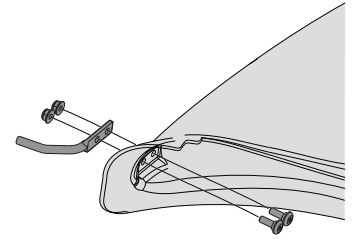

Figure 15
1. Install the boot rod mount (747-06043) to the boot using two shoulder screws (738-1225) and two flange lock nuts (712-04064) from hardware pack 689-00636. Ensure that the shoulder screws are installed on the interior of the boot. See Figure 15.